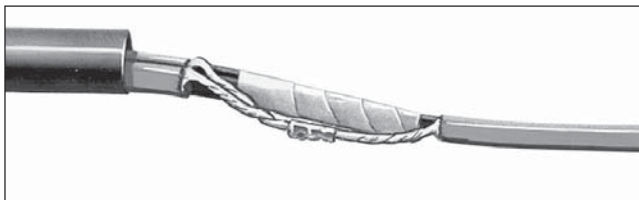

Figure 10
- B. Fold the other metal braid pigtail over 1/4" and insert into the open end of the uninsulated barrel connector. Crimp using the standard crimping tool for uninsulated barrel connectors. See Figure 10.